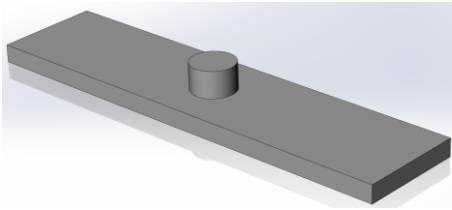
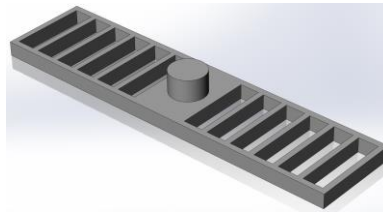

Figure 1: Solid, Simple Tool
Figure 2: Actual Tool
2. Be aware that these blocks are solid (see Figure 1); if the actual tool (Figure 2) has a series of gaps in the structure the MotoSize results will overestimate the loading.